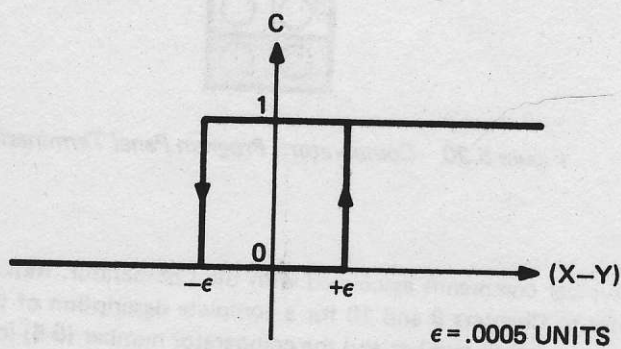

Figure 5.19 Comparator: Switching Characteristic
The switching characteristics of the Comparator are illustrated in Figure 5.19.
- To prevent "Chatter" when the input difference is near zero (within  $\epsilon$ ), a hysteresis band, as indicated in Figure 5.19, is incorporated into the Comparator design. In most practical situations, the hysteresis is sufficiently small so that it can be ignored.
- The Comparator has a Logic Latch (L) Control input. When L is maintained at a logic 1 level, the Comparator response to the analog inputs is inhibited. Therefore, the Comparator output (when latched) remains at the prior level (state). When the Latch Control is returned to a logic 0, the Comparator responds to the analog inputs in the normal manner. When L is left unpatched, the Latch Control is low (logic 0), and the latching feature is inhibited. Therefore, if the latching feature is not required for a given application, simply leave the L termination unpatched.